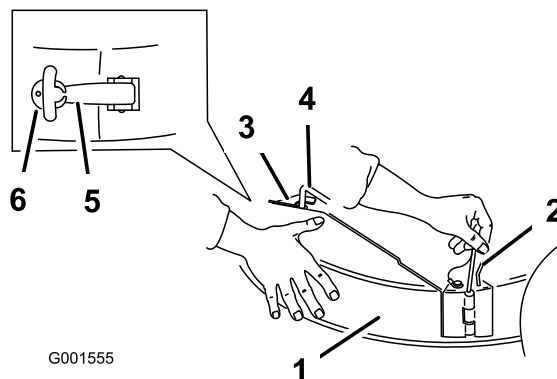

Figure 14
1. Slide the chute into position with the rear hook around the deflector rod and the front latch aligned. Insert the locking pin (Figure 14).
2. Hook the flexible latch on the chute into the notched bracket on the back of the mower (Figure 14).
2. Release the flexible latch and remove the locking pin securing the chute to the mower. Remove the chute from the mower (Figure 14).